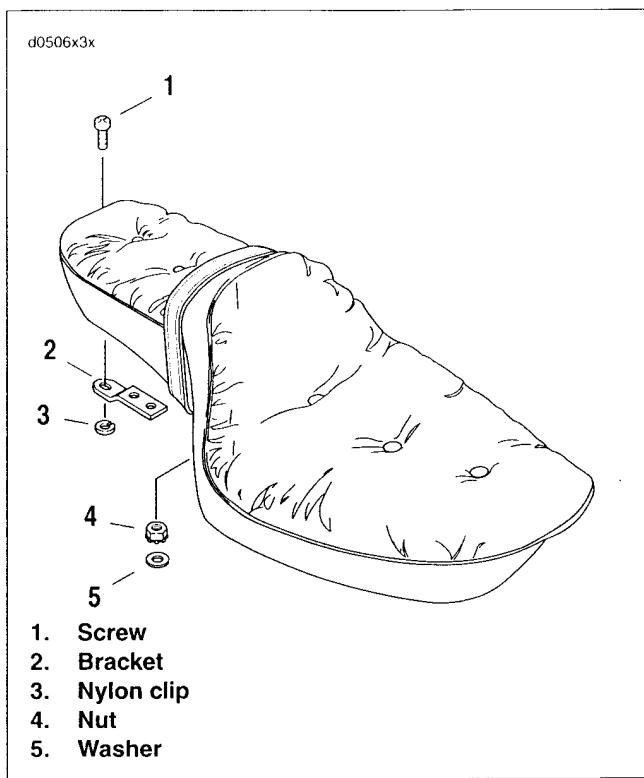

Figure 2-126. Seat
See Figure 2-126. There is a nylon retaining clip (3) between the rear seat bracket and the fender. DO NOT lose this clip, substitute a clip of different material or install the seat without this clip. Any of the above actions will result in scratched fender paint.
1. See Figure 2-126. Remove screw (1) from rear seat bracket (2). (Nylon clip remains with fender assembly).